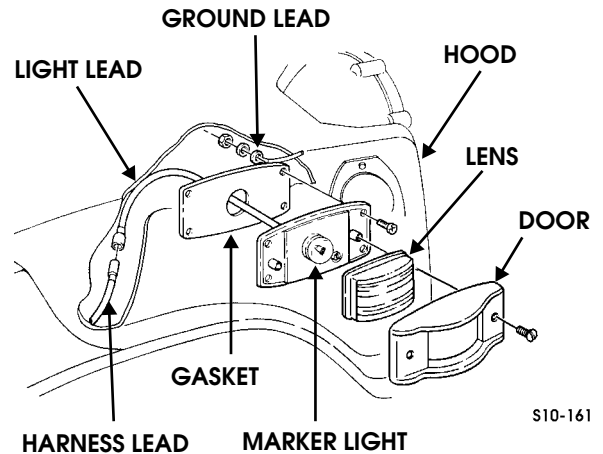

Figure 10-163: Side Marker Light Assembly
2. Disconnect harness lead from marker light lead (Figure 10-163).
1. Secure gasket, lamp holder, and ground lead on hood with four screws, washers, and locknuts (Figure 10-163).